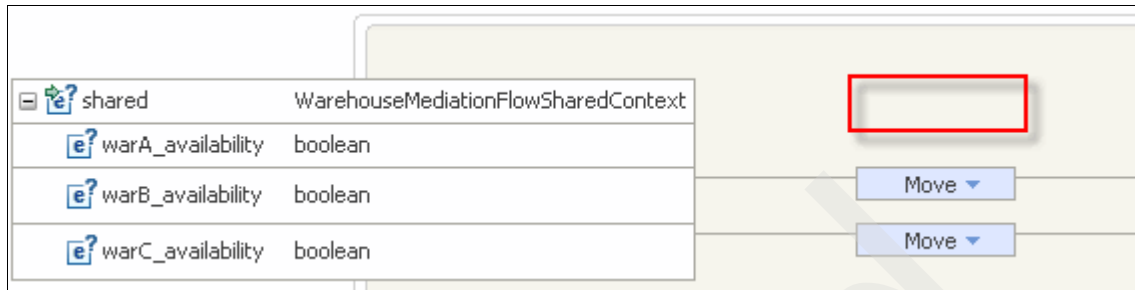

Figure 6-53 Removing Warehouse A availability copy from shared map
3. Open the context inline map. Then, open the shared context Inline map, and remove the warA\_availability mapping (Figure 6-53 on page 397).